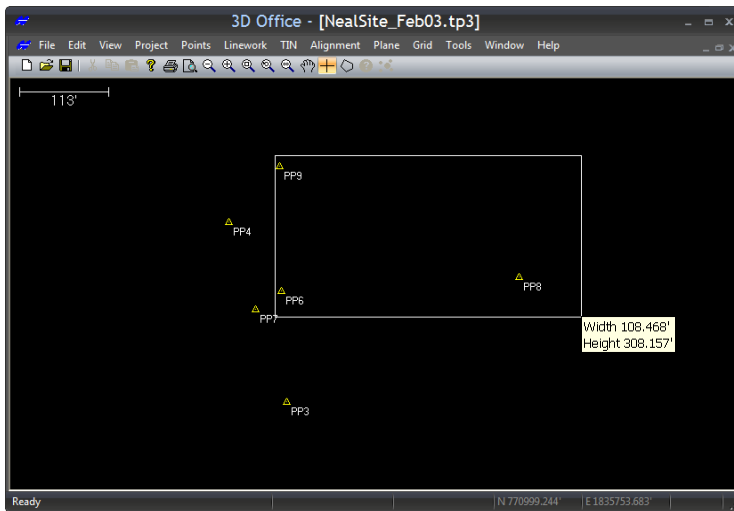
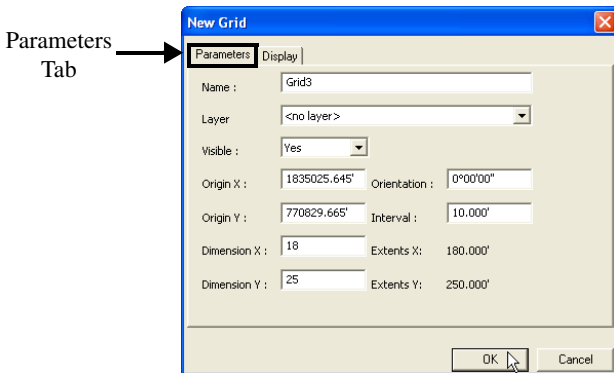

Figure 8-12. Draw Rectangle for New Grid Surface
Figure 8-13. Enter New Grid Parameter Information
2. On the Plan View, click and draw a rectangle around the area from which to create a grid surface. The width and height of the new grid displays in the pop-up box (Figure 8-12). When done, the **New Grid** dialog box displays (Figure 8-13 on page 8-9).
3. On the *Parameters* tab, enter the following parameters for the grid (Figure 8-13 on page 8-9):